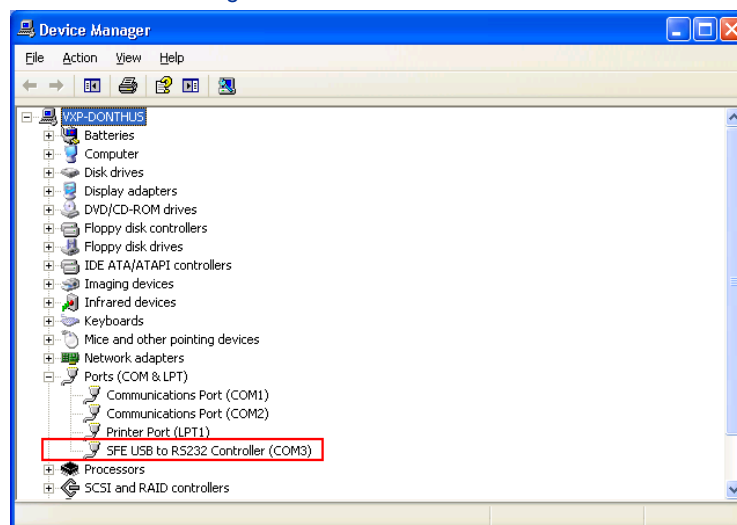

Figure 25 · Device Manager Listing SFE USB to RS232 Controller Drivers
2. If the SFE USB to RS232 Controller drivers are automatically detected (this can be verified in Device Manager), as shown in Figure 25 · , proceed to next step; otherwise follow the Step 6 - Installing Drivers for the USB to RS232 Bridge.